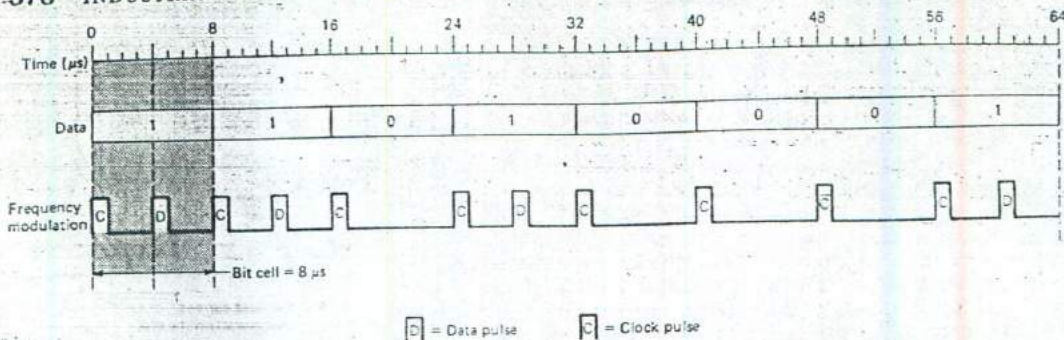

Fig. 13-28 Frequency-modulated (FM) encoding.
In addition to recording techniques, there are encoding techniques. Do not confuse the two. The *encoding* schemes affect the patterns of flux changes placed on the disk; the *recording* technique is always NRZI. A read circuit called a *data separator* converts the recorded patterns into meaningful information. Frequency modulation (FM) is an early encoding scheme used in disk systems and is illustrated in Fig. 13-28. A clock bit is written at the beginning of each bit cell, and data bits are written between clock bits. A typical bit cell might be 8 μ s wide, and the data bit is written 4 μ s after the clock bit. The data bits are 8 μ s apart, and the data transfer rate can be found by taking the reciprocal of this period: